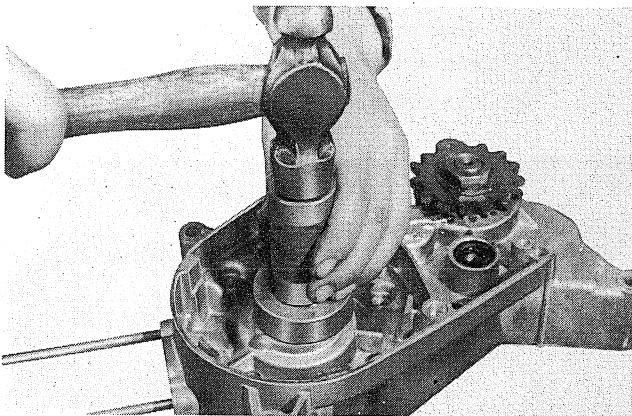

Fig. 3-17-2
- b. Remove the bearing with a bearing puller. (Fig. 3-17-2)